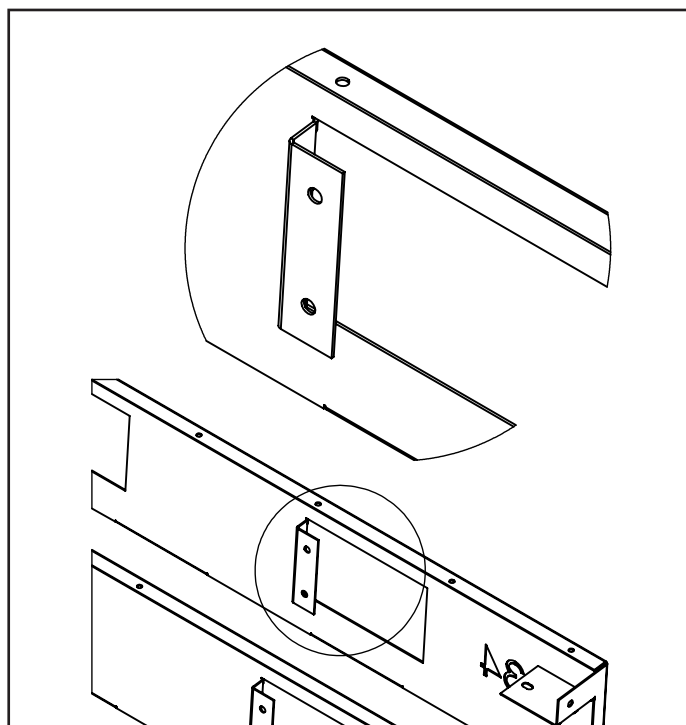

Figure 25. Rear Panel hand bent flanges
Step 4: All the middle flanges must be bent 90deg inwards towards the unit as shown below in figure 25.